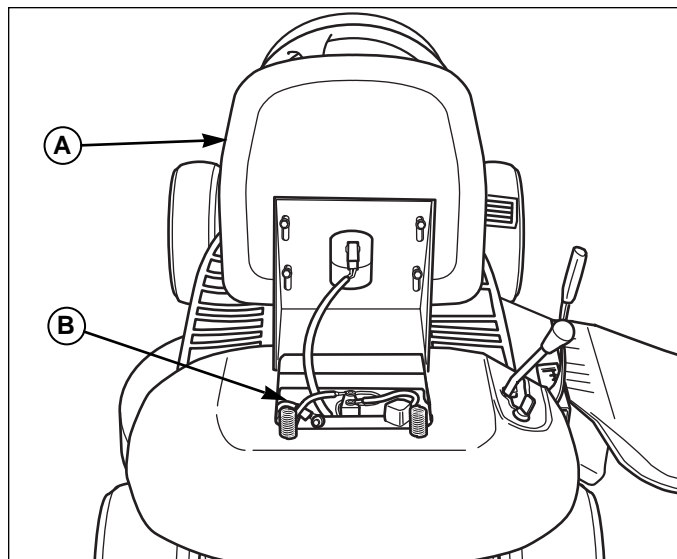

Figure 13. Seat Adjustment
1. Tilt the seat forward to access the battery compartment (Figure 13)